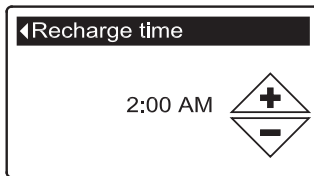

FIG. 101
5. Press the SELECT (O) button to display the Recharge time screen (See Figure 101).